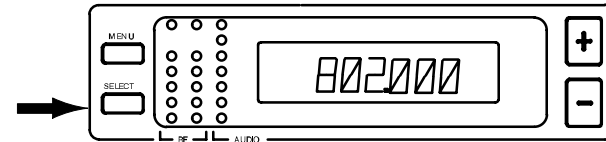

FIGURE 18
- Press the SELECT button. The current operating frequency will be displayed, as shown in Figure 18.